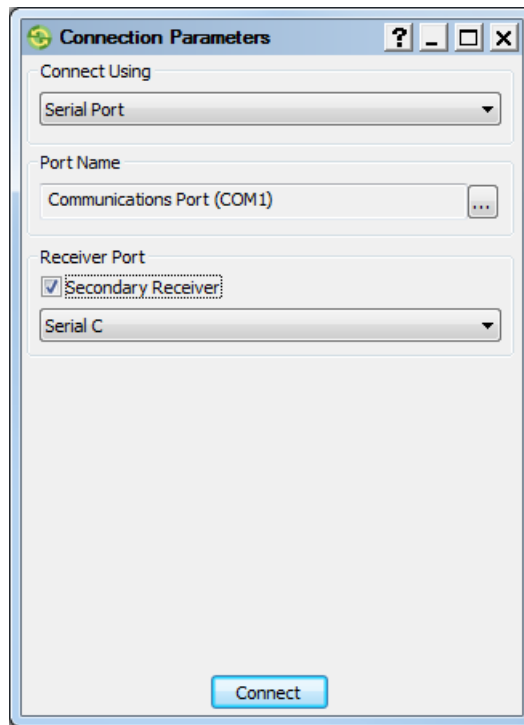

Figure 18: TRU – Connection Parameters
5. Select **Serial Port** for the **Connect Using** drop-down list (Figure 18).
8. If using a secondary receiver board, select the **Secondary Receiver** check box, and select **Serial C** from the **Receiver Port** drop-down list (Figure 18 on page 21).